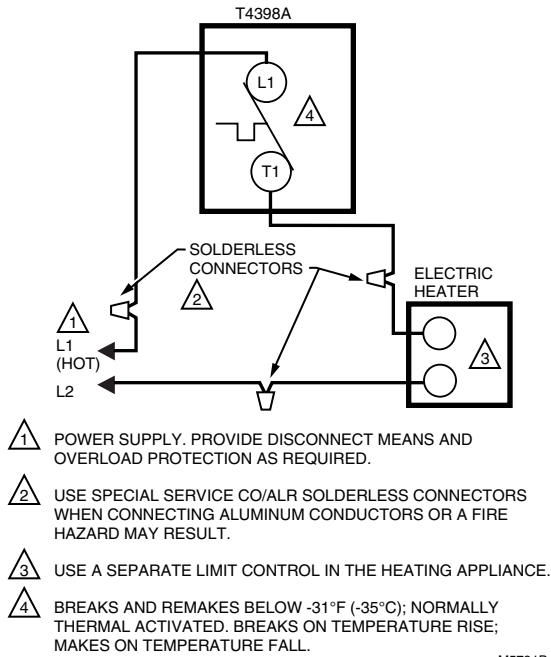
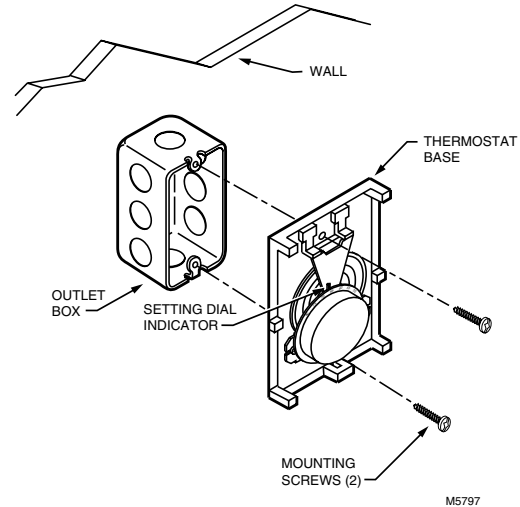

Fig. 2. Typical wiring connections for T4398A.
Fig. 4. Mounting thermostat to outlet box.
- ① Disconnect power to thermostat to prevent electrical shock or equipment damage. All wiring must comply with local electrical codes and ordinances.
- ② Remove the old thermostat from the wall, taking care not to damage the wiring insulation.
- ③ Check the old wire insulation for cracks, nicks or fraying. Apply approved electrical tape to insulate wires or replace wires as necessary.
- ④ Do not remove T4398 Thermostat Cover. Using wire connectors approved for No. 12 wires, make line voltage connections directly to leadwires on thermostat. See Figs. 2 and 3 for typical wiring connections.
- ⑤ Prebend and push solid wires into the outlet box.
- ⑥ Remove the thermostat cover by grasping the top and bottom edges and pulling outward away from the base.
- ⑦ Turn the setting dial so the indicator is at the 12 o'clock position to prevent damaging the sensing element when mounting the thermostat.
- ⑧ Mount the thermostat on the outlet box as shown in Fig. 4. Secure the thermostat by tightening the two mounting screws.
- 3 Do not remove T4398 Thermostat Cover. Using wire connectors approved for No. 12 wires, make line voltage connections directly to leadwires on thermostat. See Figs. 2 and 3 for typical wiring connections.
- 7 Mount the thermostat on the outlet box as shown in Fig. 4. Secure the thermostat by tightening the two mounting screws.